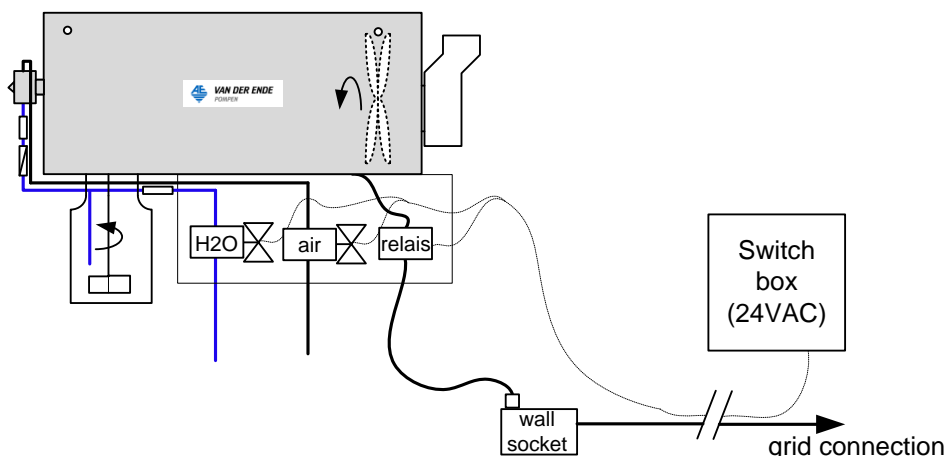

Figure 3. Installation of the Enbar, U1 type.
- connect the Enbar to a 24 VAC control circuit using the special control current connector (11);
- See also figure 3 below and the electrical wiring diagram (page 40) in the annexes.